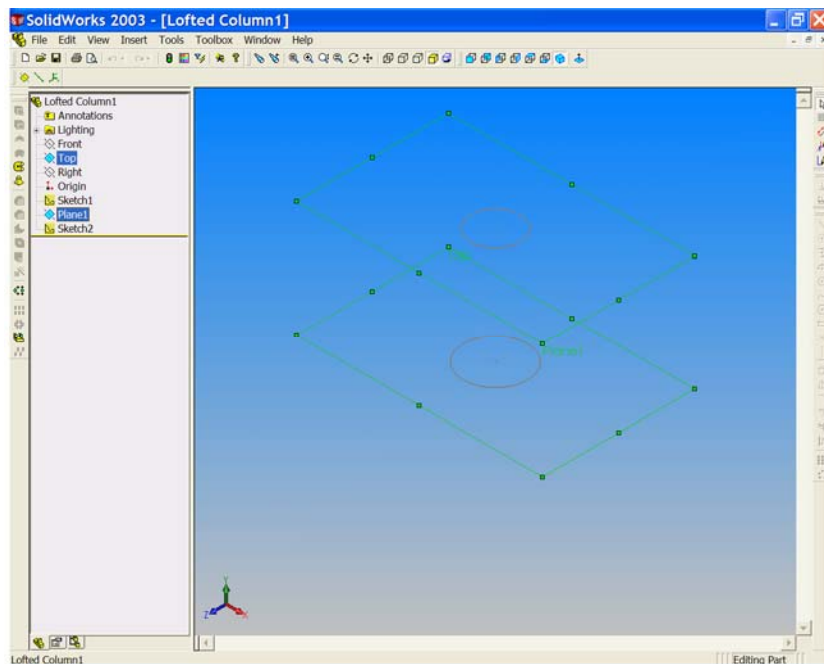

Figure 8
18. Open a sketch on the upper plane (plane 1) and sketch a circle of $\text{Ø}32$ centred at the origin. See figure 8.